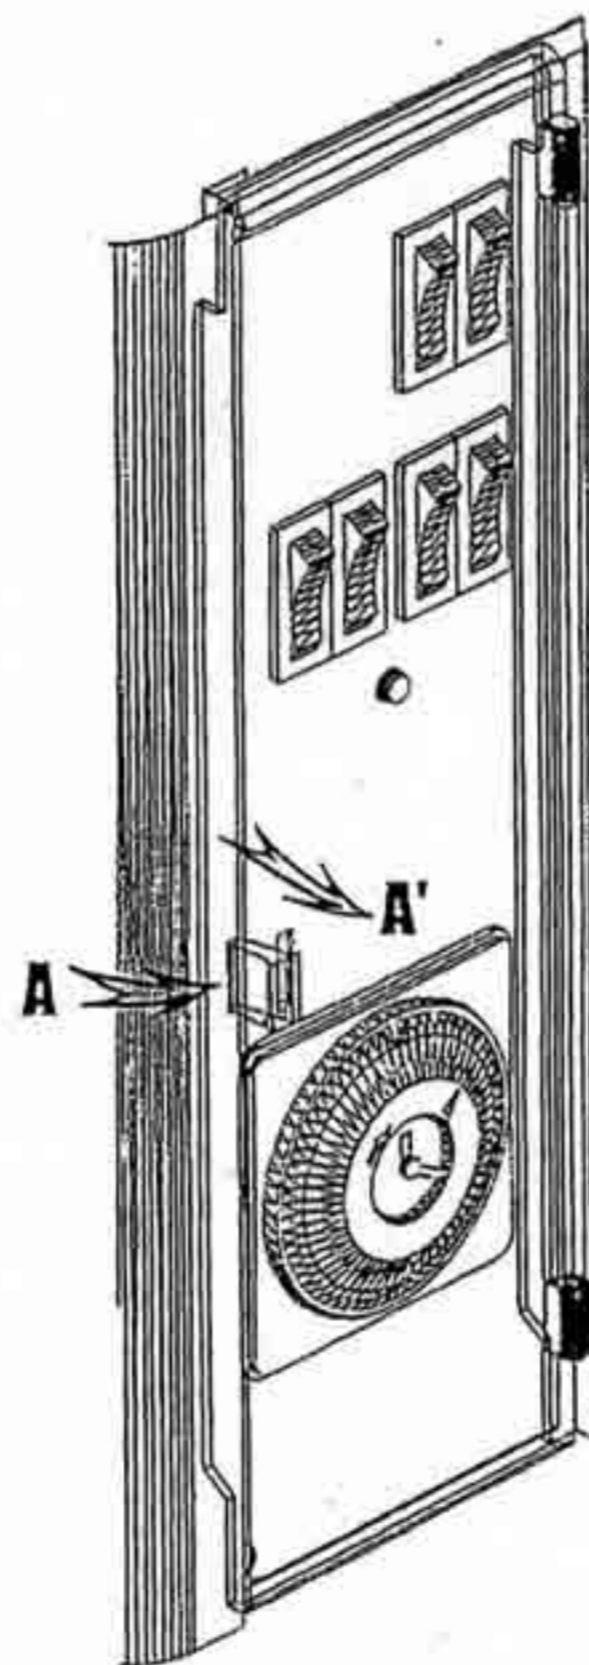

Figure 10
4. To access to switches and timer, open the switch panel cover by pushing on the side (arrow A) and pulling (arrow A') (Fig. 10).